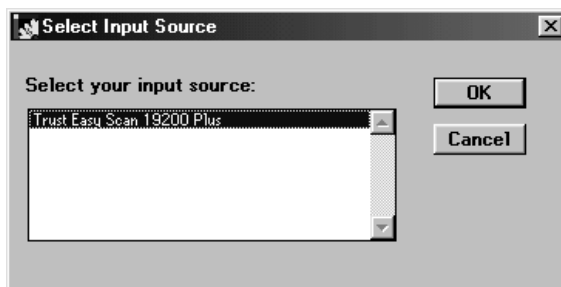

Figure 25: Scanner selection
3. From the window, select 'Trust Easy Scan 19200 Plus' (Figure 25).